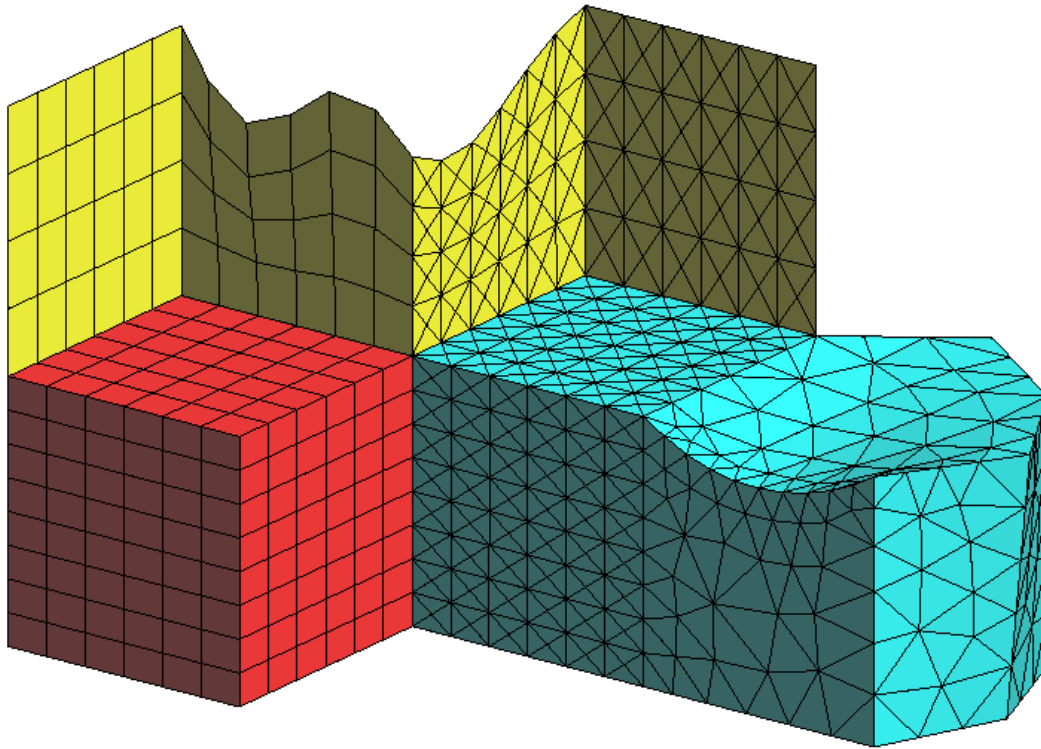
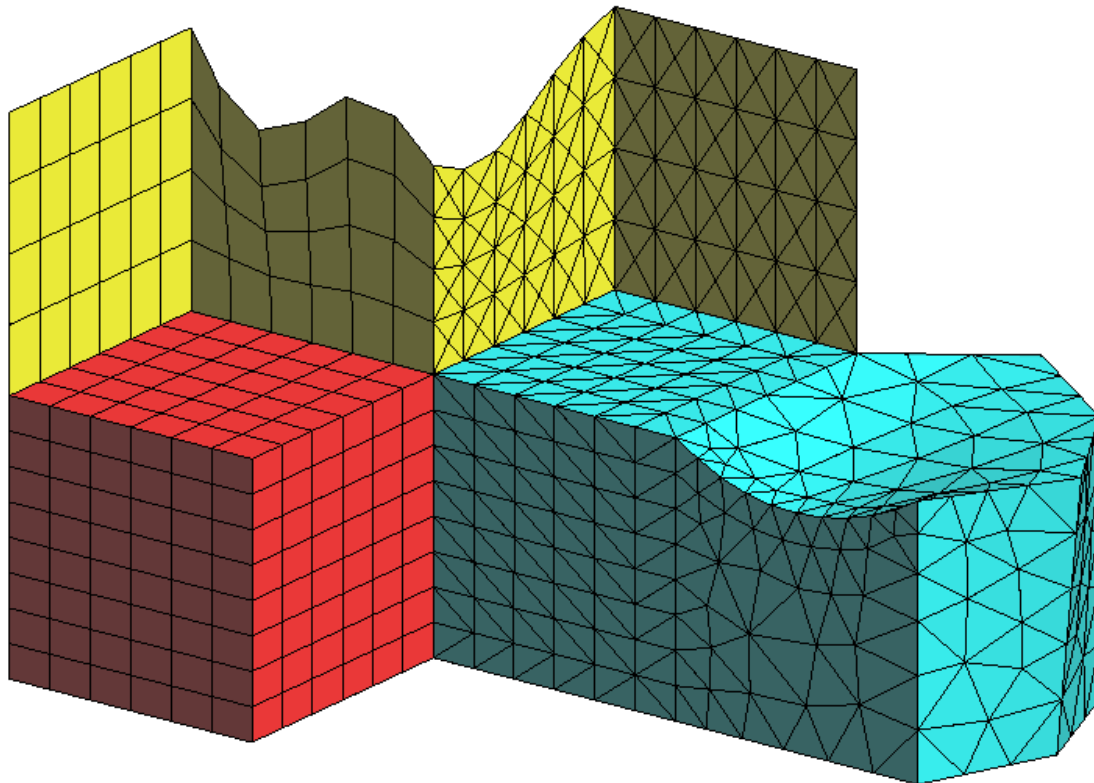

Figure 9. Structured volume mesh of hexahedra an tetrahedra.
Figure 10. Structured volume mesh of tetrahedra with the option Symmetrical structured tetrahedra not set.
- 10 . Another window comes up in which to enter the maximum element size. Leave the default value unaltered and click **OK** . The result is the mesh shown in Figure 10.
- 11 . GiD can obtain volume structured meshes made of hexahedra, tetrahedra or prisms. As can be seen in Figures 9 and 10, there are two kinds of tetrahedron structured mesh: the one shown in Figure 9 is obtained when the option **Utilities->Preferences->Meshing->Symmetrical structured->tetrahedra** is set. If this option is not set, the mesh presented in Figure 10 is produced (with fewer nodes than if using the previous option; also, it is not topologically symmetrical).